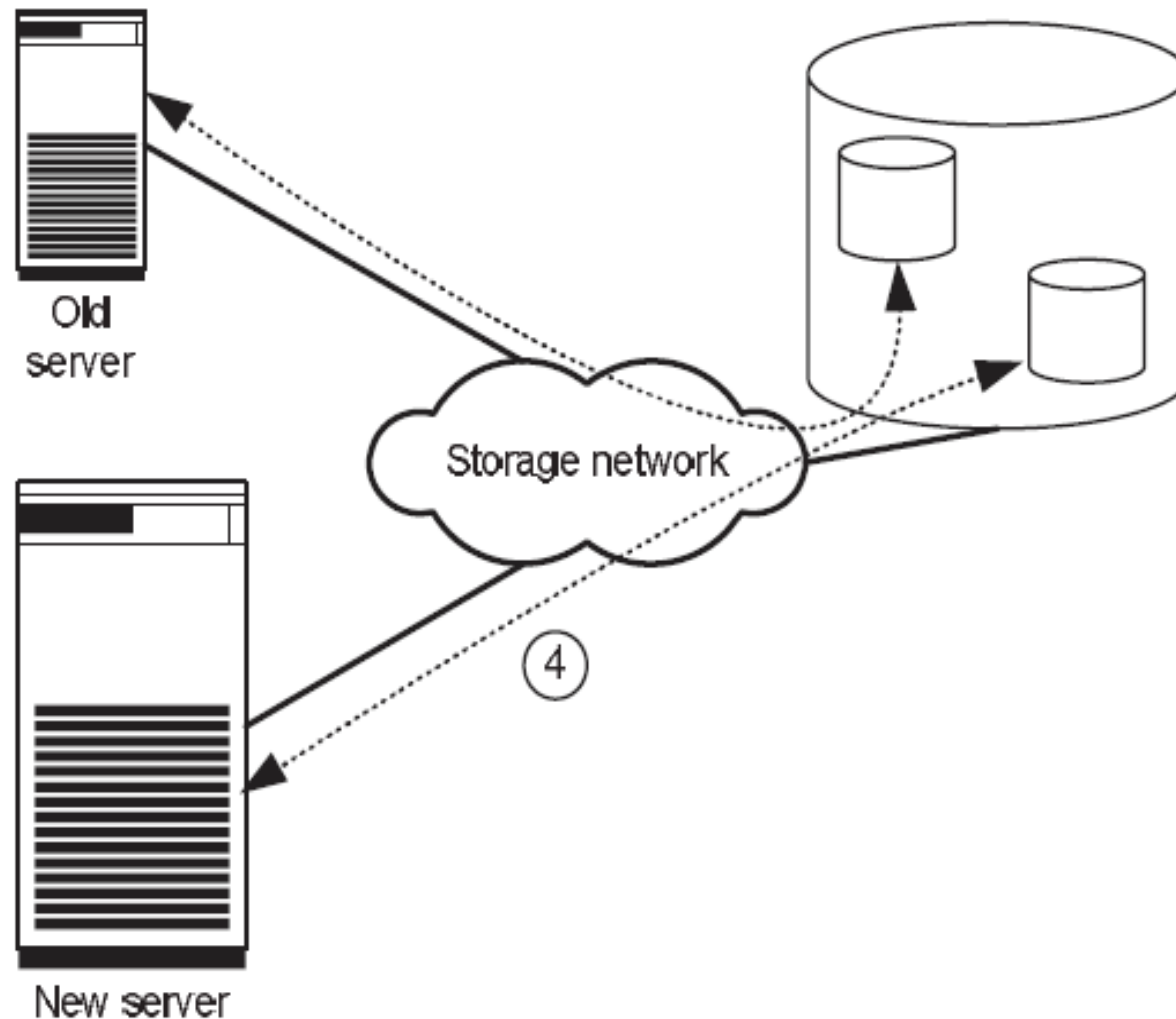

Figure 1.5 Old server and new server share the storage system. The new server is intensively tested using the copied production data (4)
- Then the copied data is assigned to the new computer and the new computer is tested intensively (**Figure 1.5**).